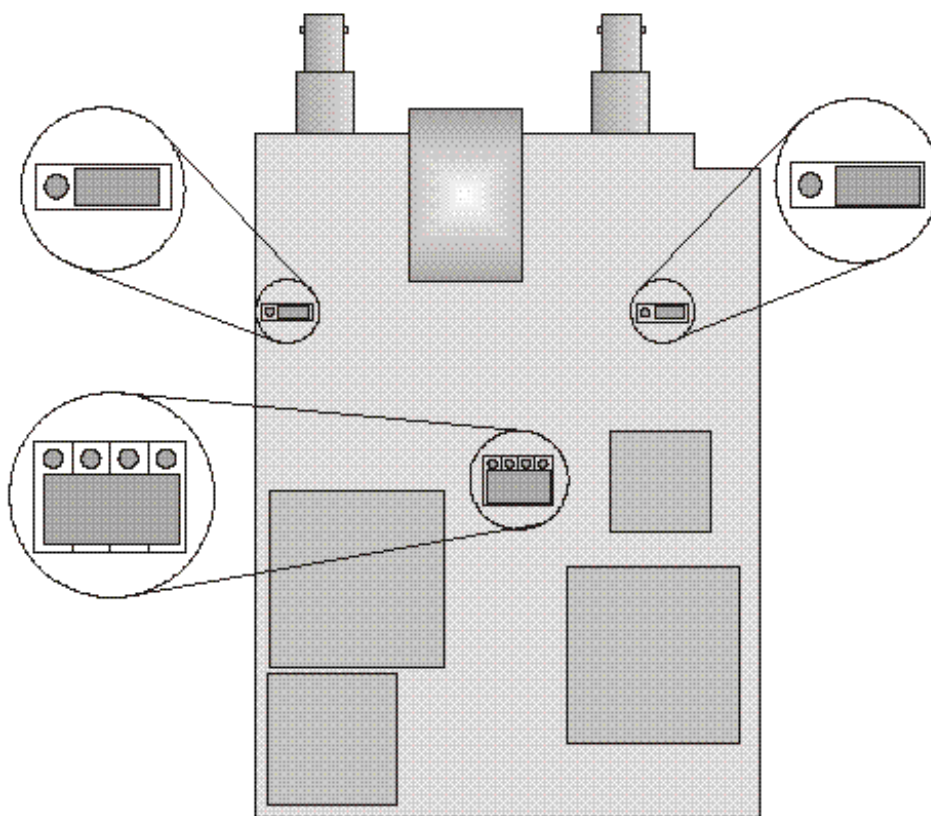

Figure C-3. Fractional E1 Unbalanced (Coax connector, 75 W)
2. Loosen and remove the two screws on the rear panel. Carefully slide out the boards. The jumpers are located at the upper side of the LIU board shown in Figure C-3.